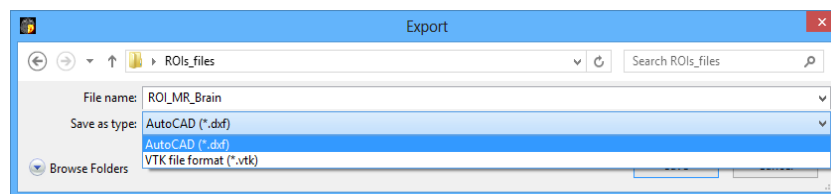

Figure 255 – Export dialog
2. Select the desired file format, the file name and the target folder in the displayed **Export** dialog (see Figure 255).